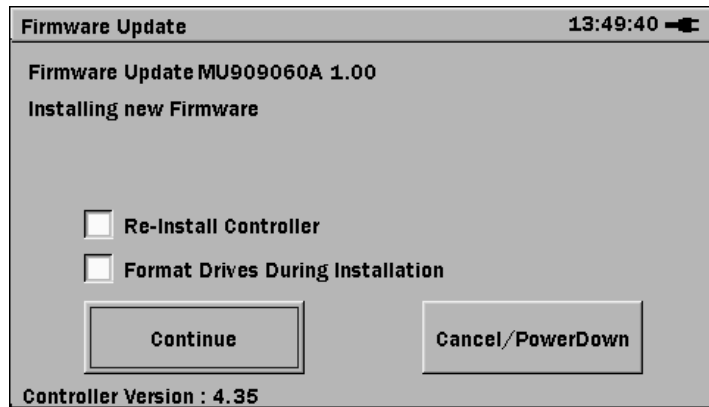

Figure 6.1-2 Installing New Firmware Screen
5. The **Finding Update File** text changes to **Extracting Update File**. When the update file is fully extracted, the **Installing New Firmware** screen is displayed (Figure 6.1-2).